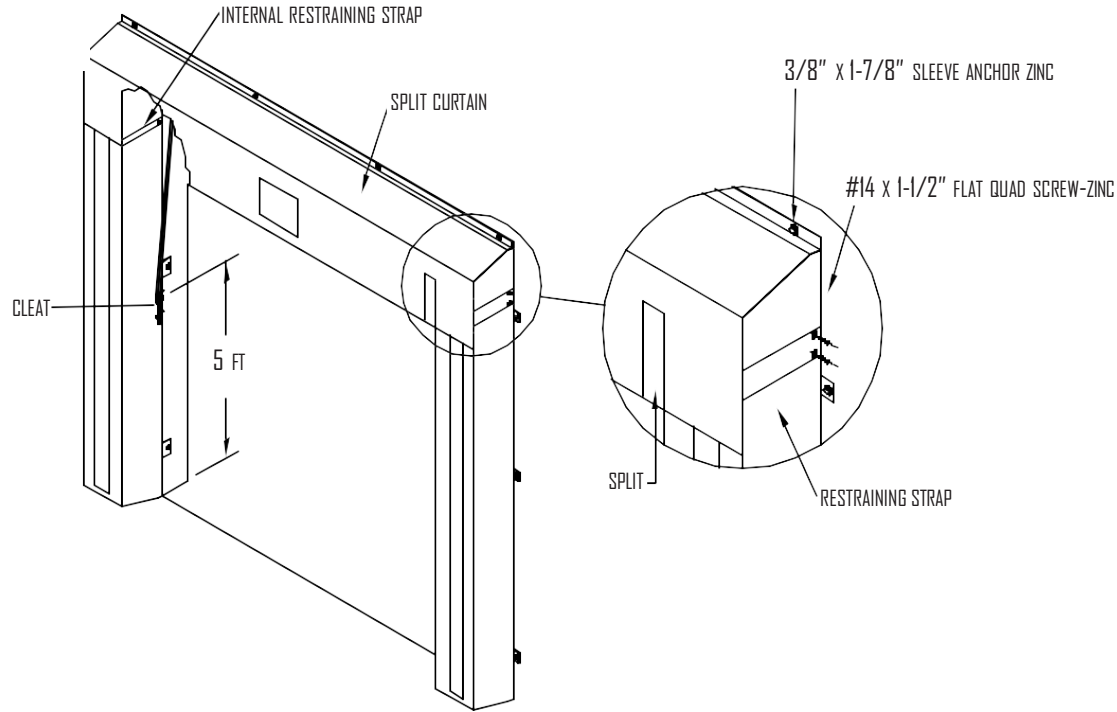

FIG 02-A
- Feed pull ropes (3 different lengths) through the "D" rings and pulleys (Fig. 02-A).
- Each side of the header seal has two restraining strap(s) (Fig. 02-B) with two grommet holes each.
- a. Location (viewing from outside of door to inside). See Fig 02-B: